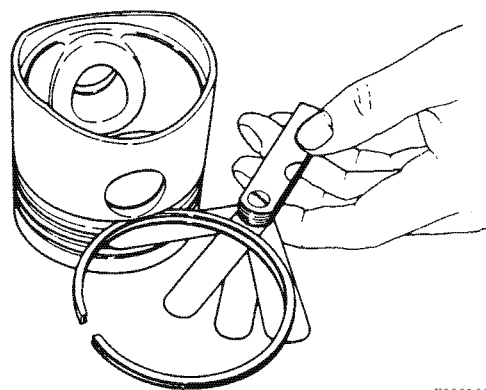

Figure 6-54
9. Place each compression piston ring in the groove as shown (**Figure 6-54**). Use a feeler gauge to measure the clearance between the piston ring and the piston ring land. Record the measurements. See *Piston ring on page 6-10* for specifications. Replace the piston if not within specification.